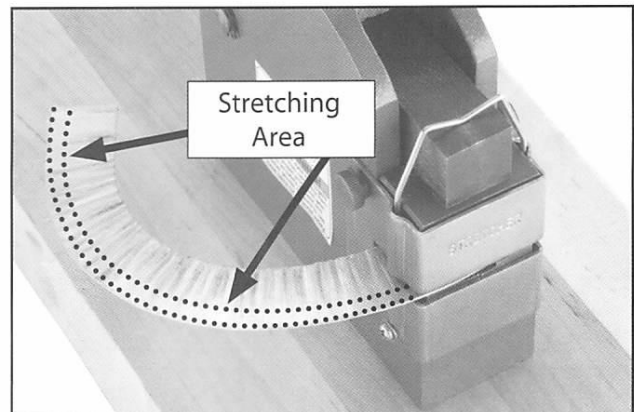
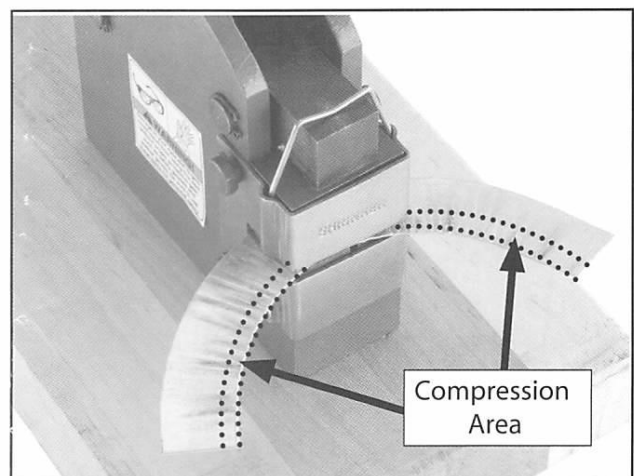

Figure 6. Stretching a workpiece into a bend.
Figure 7. Shrinking a workpiece into a bend.
2. Select the required die for your task, loosen the four thumb screws and insert the die. Using the stretcher die, a curve in metal is created by expanding the outside radius of the curve (**Figure 6**). Using the shrinker die, a curve in metal is created by compressing the inside radius of a curve (**Figure 7**).